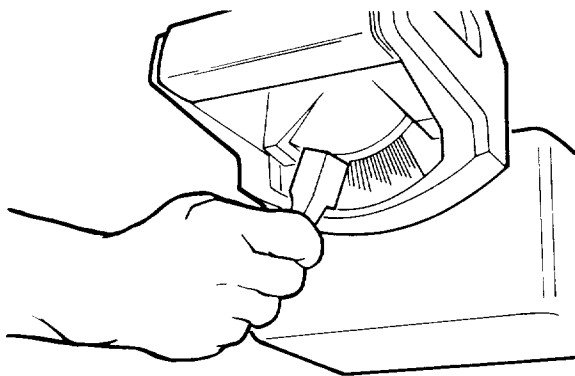

Fig. 26
10. Push the *bevel lock* to the left as far as it will go. (Figure 26)